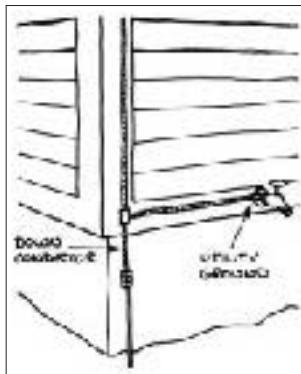

Figure 7. Each downconductor needs a grounding connection, which must be interconnected with utility grounds.
3. Grounding System. You must ground every downconductor with a grounding-system connection (see Figure 7). You must also interconnect the lightning-protection grounding system with utility grounds. The type and configuration of a grounding system depends on the "resistivity," moisture content and penetrability of the soil, and the sensitivity of the building's contents. Electronic equipment or sensitive substances (like explosives or unstable gasses) are vulnerable to heightened electric fields during a lightning discharge to the building.